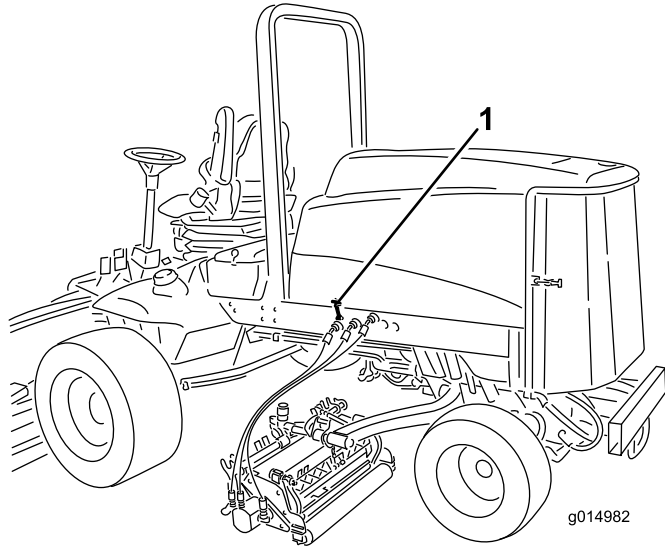

Figure 46
1. Release hood latches (Figure 46) and pivot open the hood.